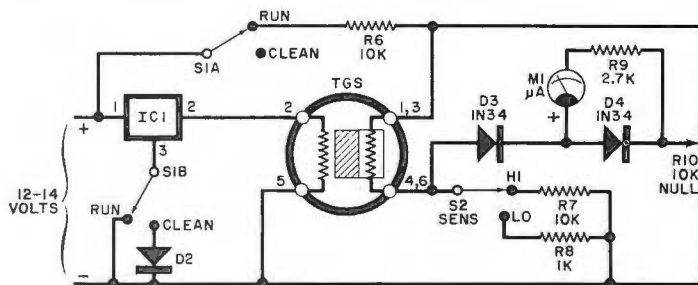

Fig. 3. This 12-volt dc detector uses a meter readout instead of alarm for quantitative leakage measurements and locations.
**Gas Measuring System.** The circuit shown in Fig. 3 is particularly interesting because it provides a quantitative measurement of gas concentration, rather than the simple go/no-go indication of the previous circuits. This circuit can be used for any gas measurement from vehicular engine tuneups to gas-leak detection. In use, the meter's pointer swings up-scale by